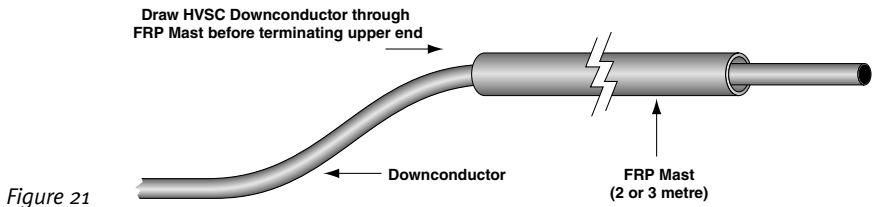

Figure 21
1. In preparation for the upper termination of the HVSC it is important to feed the HVSC cable through the FRP Support mast prior to starting the upper termination. Refer to figure 21.